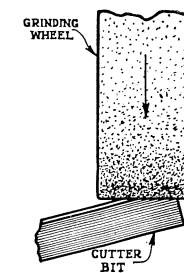
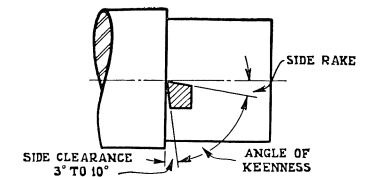

Fig. 11
Fig. 20. Correct side clearance and side rake of cutter bit.
The illustrations on this page, Figs. 11 to 15, inclusive, show each step in the grinding of a round nosed turning tool for general machine work. The various steps in grinding the cutter bit are as follows:
Fig. 11—Grind the left side of the cutter bit, holding the cutter bit at the correct angle against the wheel to form the side clearance, as shown in Fig. 20 on page 7. Use a coarse grinding wheel to remove most of the metal, and then finish on the side of the fine grinding wheel to produce a straight surface. (If ground on the periphery of a small diameter wheel the cutting edge will be undercut and will not have the correct angle.) Dip the cutter bit into water frequently while grinding to prevent overheating.
Fig. 15—Grind the top of the cutter bit, holding the cutter bit at the required angle to obtain the necessary side rake and back rake, as shown in Figs. 20 and 21 on page 7.
In order that the cutter bit may cut freely, it must be ground with side clearance, front clearance, side rake and back rake at the correct angles, as shown in Figs. 20 and 21.
**Side Clearance**—The side clearance should be from  $3^\circ$  to  $10^\circ$ , depending on the amount of feed used and the nature of the work, and is ground on the side of the cutter bit to permit the cutting edge to advance freely without the heel of the tool rubbing against the work. (See Fig. 20.)
**Side Rake**—The side rake is ground on the top of the cutter bit to facilitate free cutting. (See Fig. 20.)
**Tool Angle**—The tool angle or angle of keenness is the included angle of the cutting edge which is formed by the top and side of the cutter bit. (See Fig. 20.)